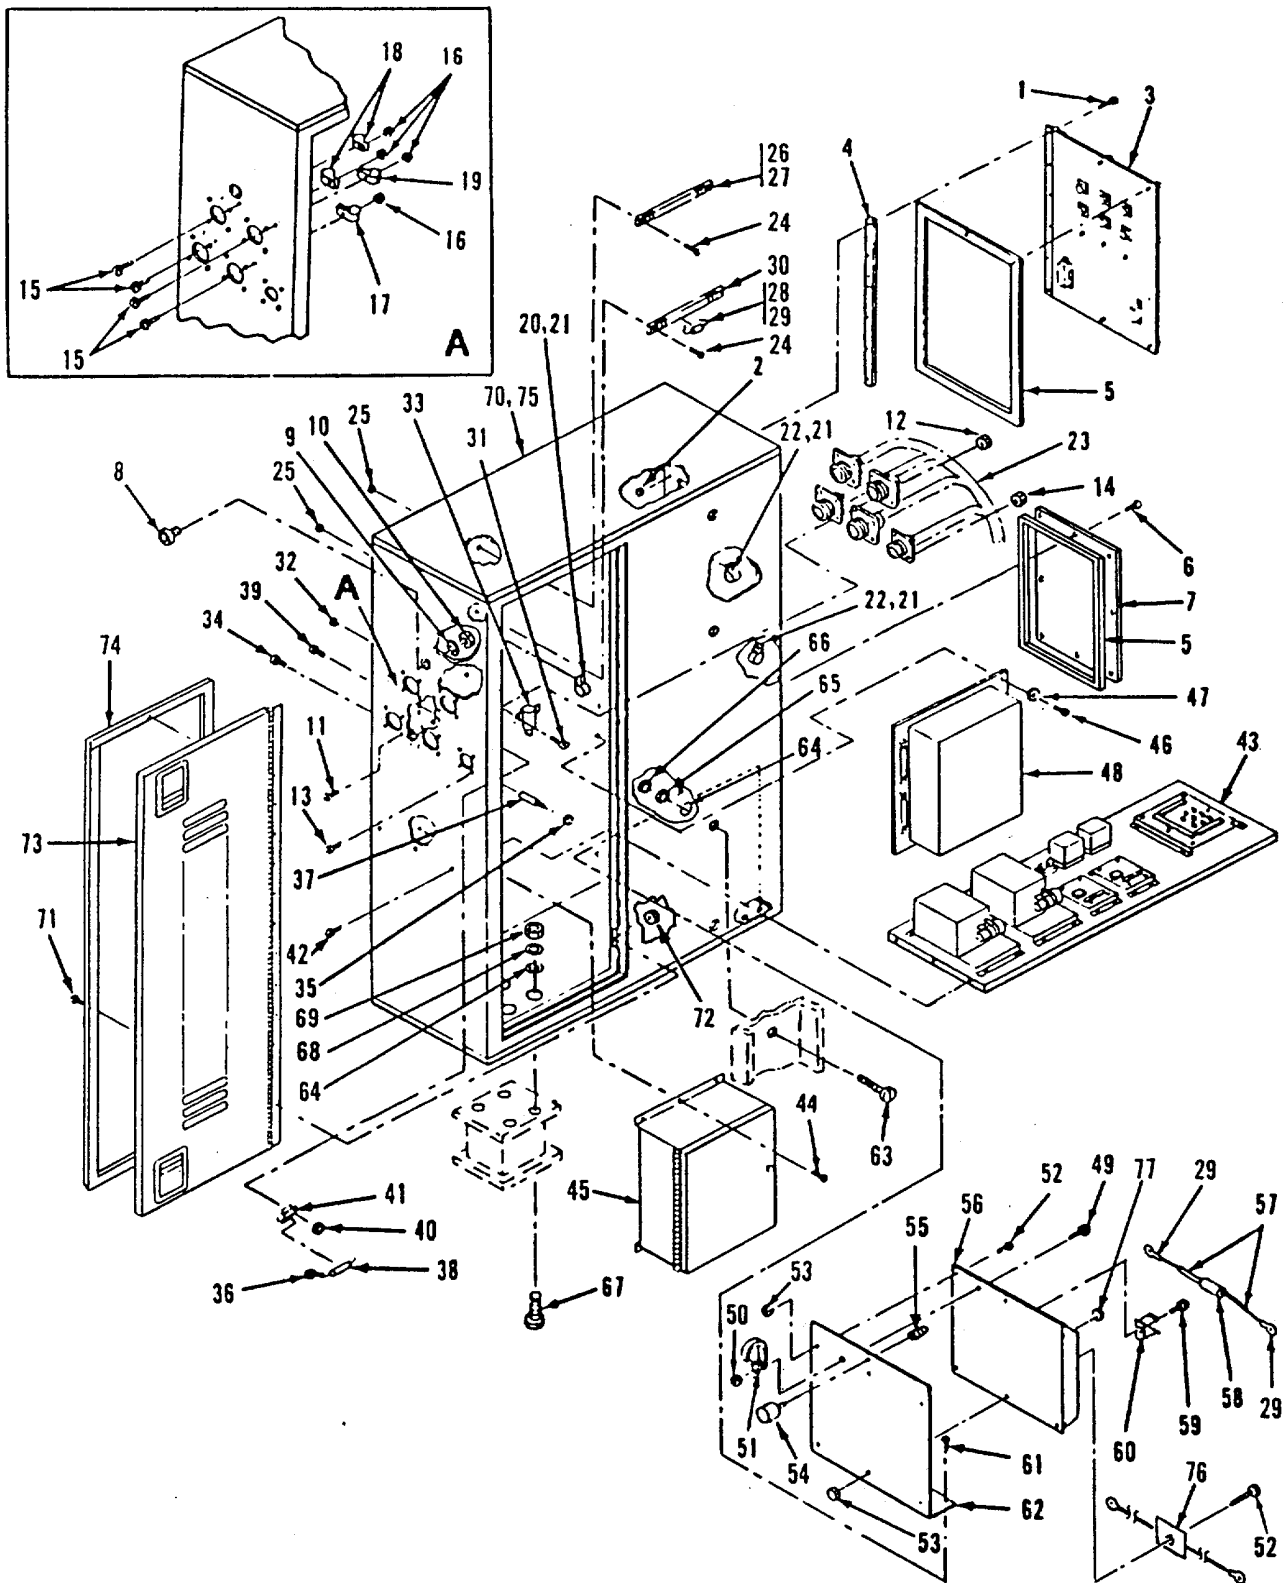

Figure 4-17. AC-DC Control Box Assembly, Exploded View
4-28. GENERAL. This section contains inspection, test, and replacement information for the AC-DC Control Box Assembly. See figure 4-17, 4-18 and 4-19 and proceed as follows:
- a. Gain access to the components of the AC-DC Control Box by loosening six captive screws on the AC-DC control panel (3, figure 4-17). Use the top and bottom latches to release and open the side door (73, figure 4-17) to the AC-DC Control Box.
LEGEND FOR FIGURE 4-17